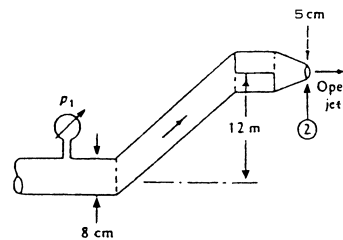

Fig. P3.167
3.167 In Fig. P3.167 the fluid is gasoline at 20°C at a weight flux of 120 N/s . Assuming no losses, estimate the gage pressure at section 1.